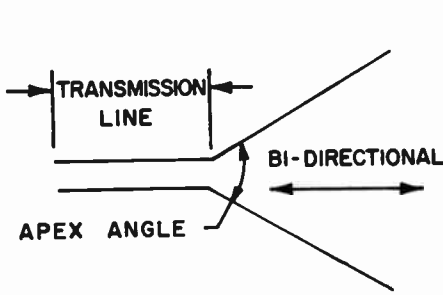

FIG. 17-22. UNTERMINATED "V" BEAM.
**3 V-BEAM ANTENNA.** The "V" antenna is actually a form of a long wire antenna. It is made by positioning two long wires in the form of a V. This is shown in Fig. 17-22. The gain of the V antenna is determined by the length of the radiators and the apex angle. For a given apex angle, the gain and sharpness of directivity increases as the length of the antenna increases. The gain can be made very high if the legs of the antenna are several wavelengths long.
Fig. 17-22 illustrates an unterminated V-beam antenna. Its pattern is bi-directional. It transmits and receives well along the line bisecting the apex angle.